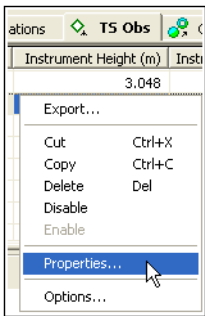

Figure 5-77. Open Properties
- 1. To add a new instrument type to the instrument list or edit a current instrument type, right-click a TS occupation and click **Properties** on the pop-up menu (Figure 5-77).